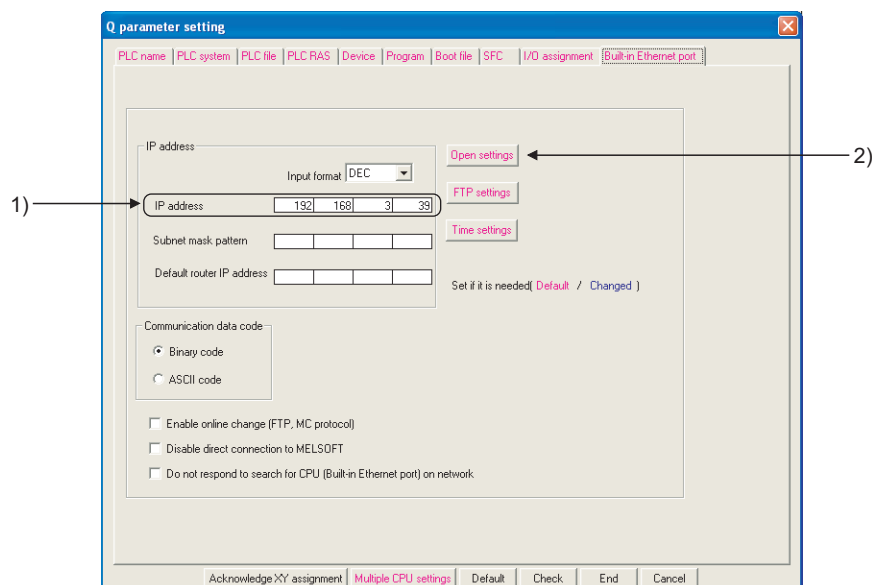

Figure 7.3 Built-in Ethernet port tab
- (a) Set the items on the Built-in Ethernet port tab of PLC parameter in GX Developer as shown in Figure 7.3.